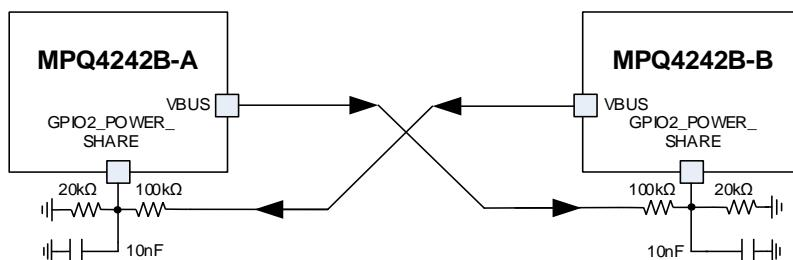

Figure 15: GPIO2 Power Share Connection Between Two MPQ4242Bs
The MPQ4242B exits the power sharing status after the GPIO2 voltage drops below V_{TH_PS} . Figure 15 shows the GPIO2_POWER_SHARE connection block.
- 14) The PDP table is based on the GPIO2_POWER_SHARE set-up in Figure 15 on page 29. The MPQ4242B-A triggers power sharing when the MPQ4242B-B's $V_{BUS} > 11.2V$.